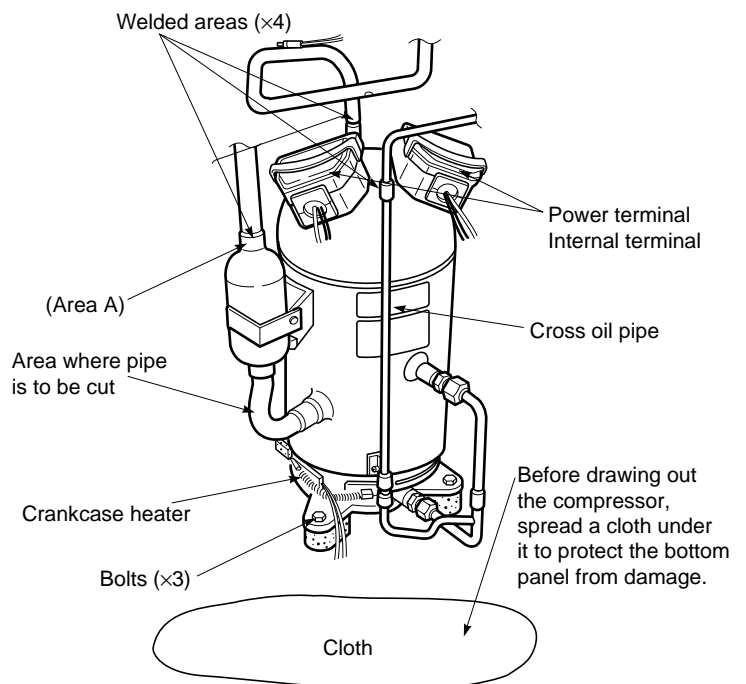

Fig. 2
(2) Replacing the constant-speed AC compressor (Ref. Fig. 2)
- * If the power cable interferes and makes it impossible to replace the AC compressor, refer to "(1) Replacing the PC compressor" on the previous page.